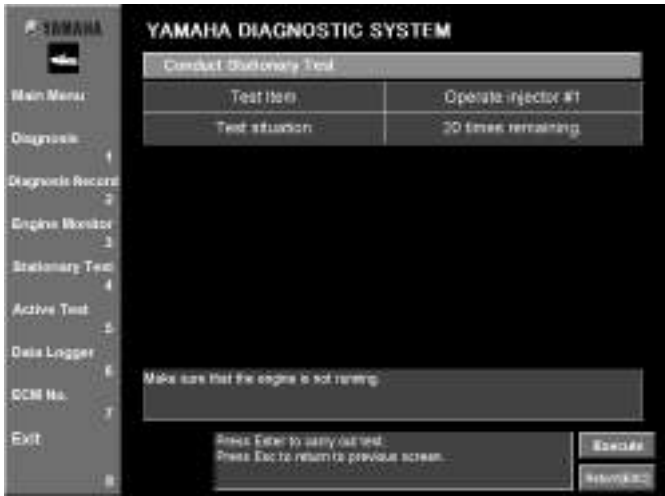

Fig. 49
3. Click the **Execute** button or press the Enter key on your keyboard. (Fig. 49)